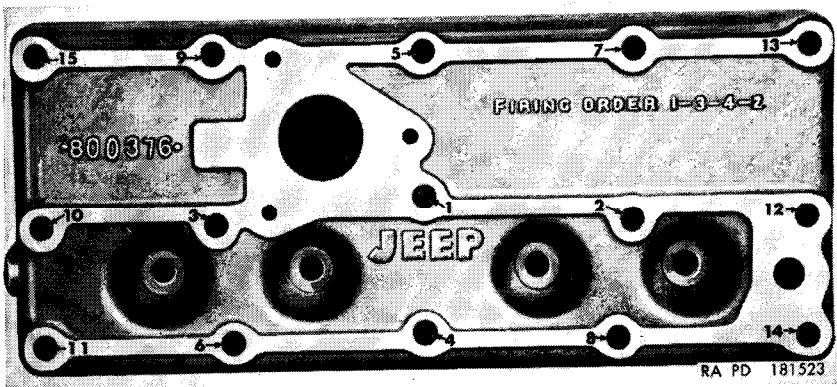

Figure 25. Cylinder-head nut tightening sequence.
- (1) Using cylinder-head studs 10 and 12 (fig. 25) as pilot studs for correct positioning, place a new cylinder-head gasket over the cylinder head studs. Position cylinder head on top of gasket being careful not to damage the threads on the studs.
- (2) Start eight $\frac{7}{16}$ -inch cylinder-head stud nuts on studs 3, 4, 6, 8, 11, 12, 13, and 14 (fig. 25) and screw the nuts on fingertight.
- (3) Place the mounting bracket (on engine) (K), with oil filter assembly over cylinder-head studs 9, 10, and 15 (fig. 25) and screw nuts on studs fingertight.
- (4) Place the lifting hook (A) over the cylinder-head studs 1, 2, and 7 (fig. 25) and screw $\frac{7}{16}$ -inch nuts on studs fingertight.
- (5) Position the air intake pipe with vent valve and bracket assembly (B) in the vehicle. Slide the control valve hose (H) onto the hose connection on the crankcase oil filler pipe assembly (S) and place the air intake pipe bracket (R) over the No. 5 stud (fig. 25) and screw $\frac{7}{16}$ -inch nut on stud fingertight. Tighten the hose clamp screw (J) securing the control valve hose (H) to the filler pipe. Slide the air intake pipe hose onto the carburetor and the air cleaner. Secure the hose clamp screws (G, fig. 23) at each end of the pipe assembly.
- (7) Tighten all cylinder-head stud nuts to torque of 65–75 pound-feet in the sequence shown in figure 25 to secure the cylinder head to the cylinder block and the mounting bracket (on engine), lifting hook, and air intake pipe bracket to the cylinder head.
- (8) Install the $\frac{5}{16} \times \frac{5}{8}$ flat washer screw (L) through the crankcase oil filler pipe support bracket into the mounting bracket (on engine) (K) and tighten.
- (9) Clean, adjust, and install the spark plugs and connect the spark plug cables (par. 145). Connect the water temperature sending unit cable (N) by pushing the connector plug on the end of the cable into the sending unit receptacle and turning the connector clockwise to secure it to the sending unit.
nut No. 2 (fig. 25). Screw speed nut (E, fig. 23) onto the stud to secure the clip. Screw nuts at both ends of the line into fittings. Position the vent line (C, fig. 23) between the carburetor assembly (J, fig. 23) and the air intake pipe with vent valve and bracket assembly (B, fig. 23) and screw the nuts at each end of the line into the fittings.